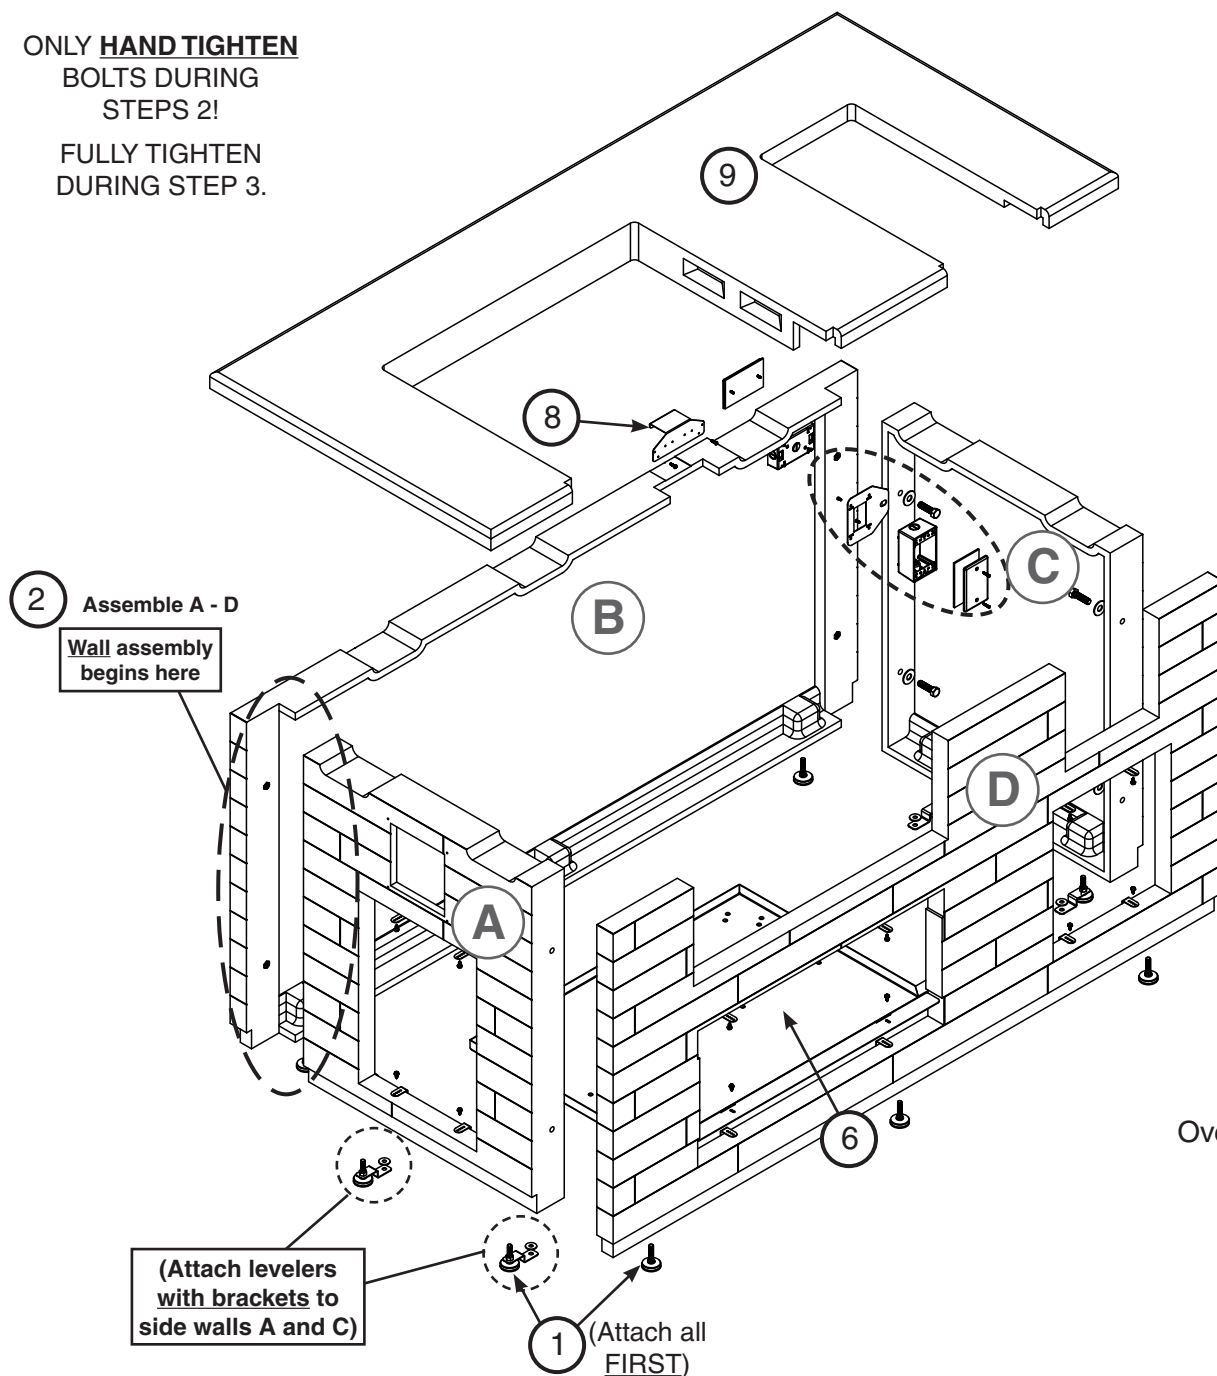

Fig. 6-1
- Fig. 6-1 provides an overall orientation and bolt assembly detail for the island.